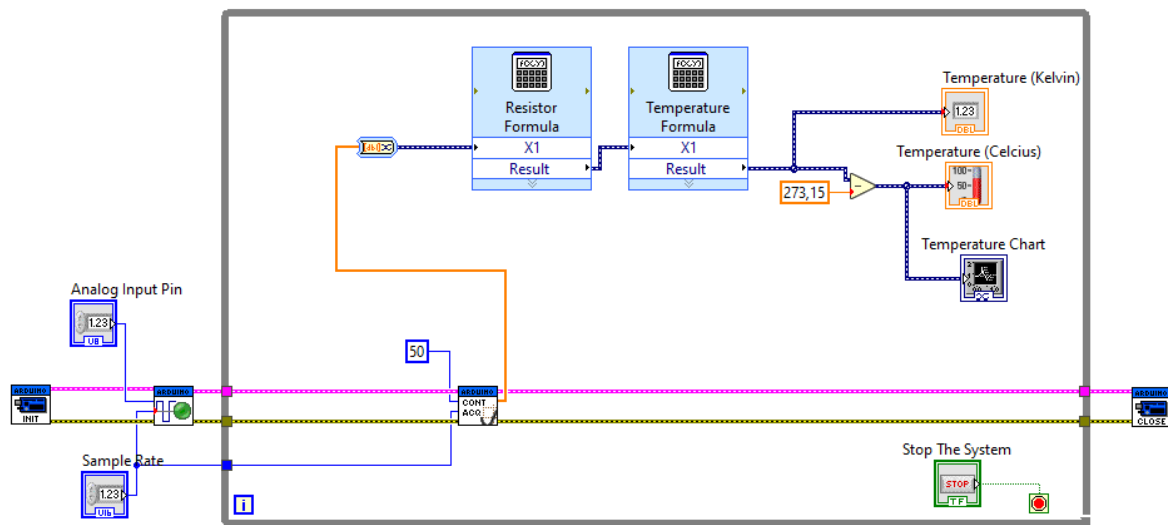
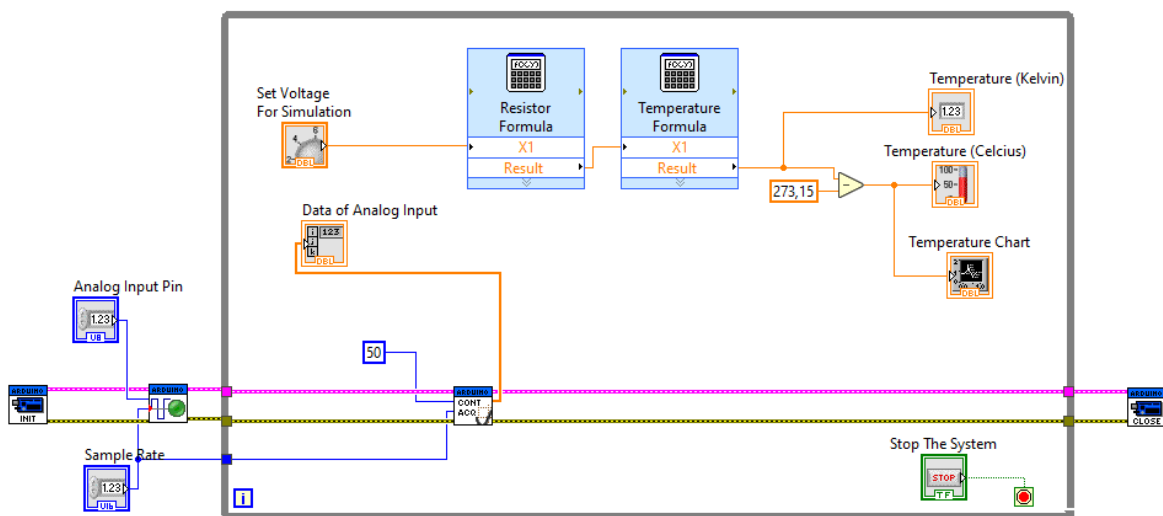

Figure 1.1 – Block Diagram of System
Figure 1.2 – Block Diagram for System Simulation
2. Initialize Arduino (Figure 1.1 and Figure 1.2)
3. Continuous Acquisition for Sample rate and Analog voltage pin (Figure 1.1 and Figure 1.2)
4. Continuous Acquisition Sample for Mean input voltage (Figure 1.1 and Figure 1.2)
For system working test "Set Voltage for Simulation" knob connected as shown in Figure 1.2.
For system simulation (Figure 1.2)